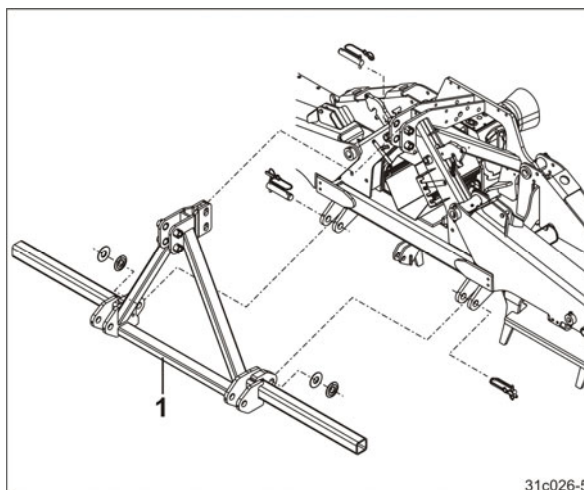

Fig. 71
5. Attach the three-point extension frame (optional, Fig. 71/1) to a crane and secure the rotary cultivator.